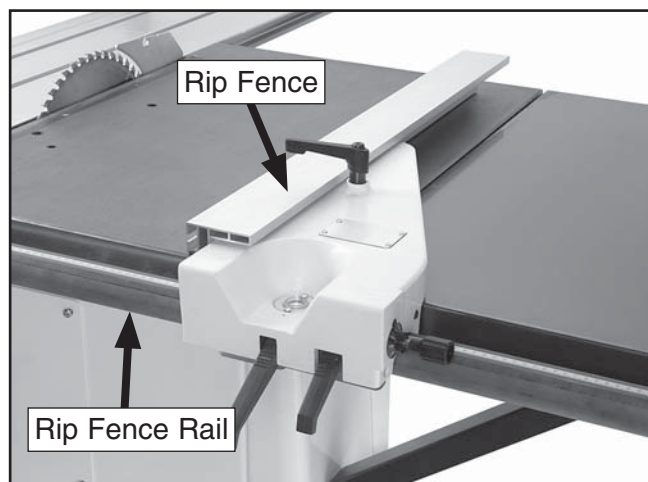

Figure 21. Rip fence assembly.
15. Place the rip fence body onto the rip fence rail (Figure 21).